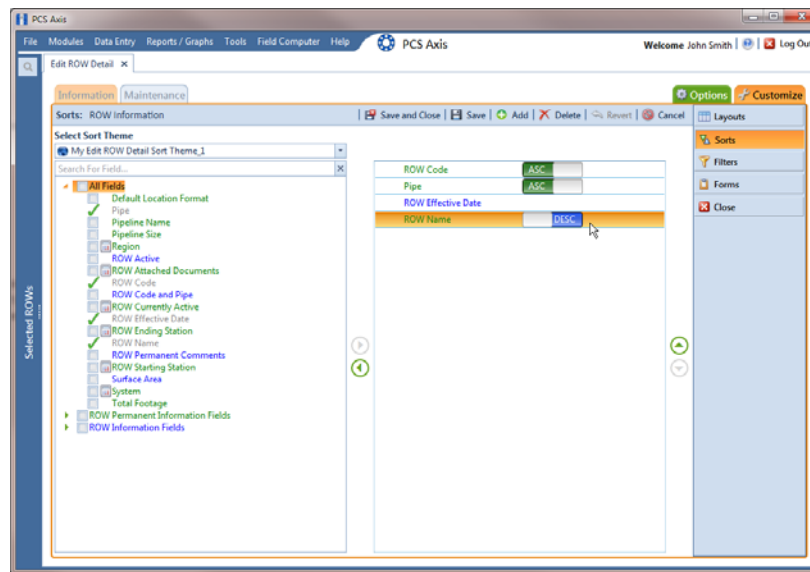

Figure 7-87. Sorts
- 10 Complete the following steps to add and remove fields in the new sorting theme as needed (Figure 7-87):